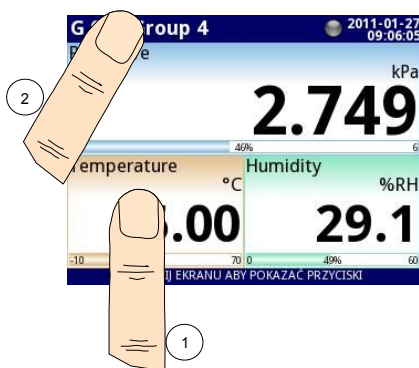

Fig. 6.7. Methods for direct entry to **Logical channel** configuration (1) and **Group** configuration (2)
To enter the configuration menu of a particular **Logical channel** directly, press and hold the screen over the channel data panel for 3-4 seconds (see option (1) in **Fig. 6.7** entering configuration of the **logical channel** named 'Temperature'). Similarly, to go directly to the configuration of a displayed **Group**, touch and hold the **group number** or **group name** in the upper **Information bar** for a few seconds (see option (2) in **Fig. 6.7** entering configuration of the **Group** named 'Group 4'). In both cases if a password is set (see **Chapter 7.17. ACCESS OPTIONS**) then the user has to enter the password before entering the configuration.